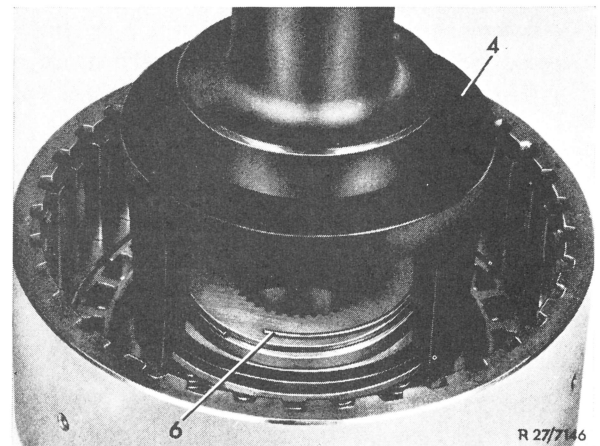

Fig. 8
12 Mount assembly fixture (4) and push spring retainer carefully and without canting down under press until the circlip (6) can be inserted (Fig. 8).